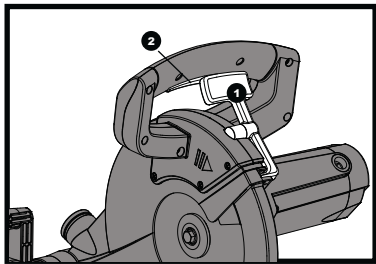

Fig 29
Push down the lock lever (1) and squeeze the trigger switch (2) to turn the mitre saw ON. Release the trigger switch to turn the saw OFF. (See fig. 29)